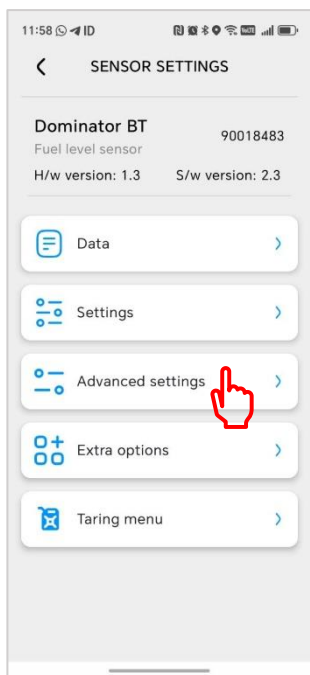

Fig. 5.21
- Go from the main menu to "Additional settings" (Fig. 5.21)